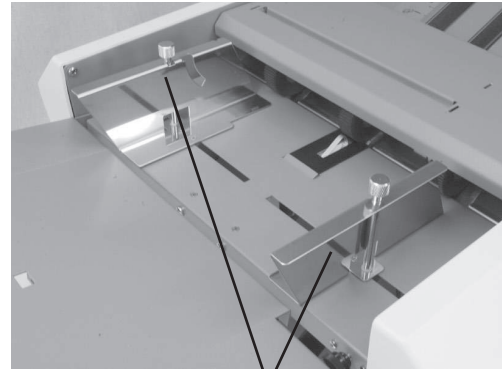

Fig. 6 Self centering side guides
3. Set the self-centring paper side guides for the width of the forms and lock in position using thumbscrews. (Fig. 6)